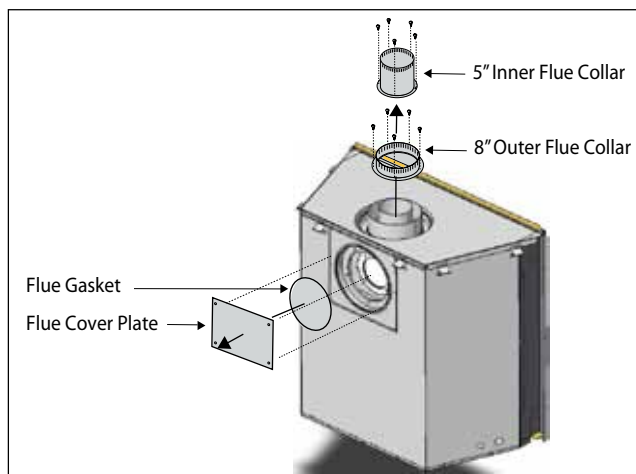

Figure 9. Flue cover and collar removal, *top vented* fireplace.
1. Remove the rear flue cover and gasket (5" and 8") on the flue outlet, as shown in *Figure 9*.
2. Next, remove the top flue collars (5" and 8") on the flue outlet, as shown in *Figure 9*.